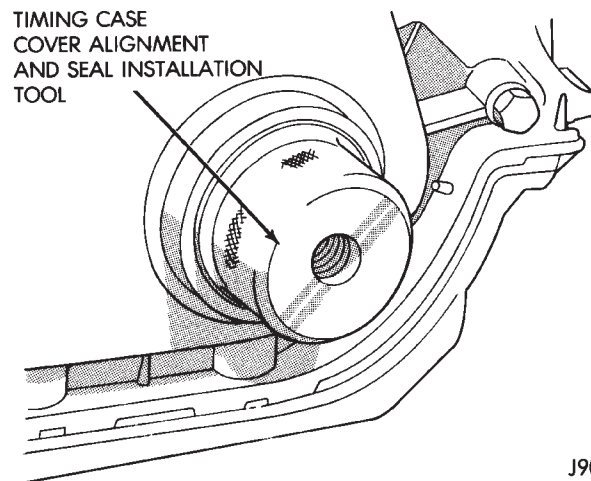

Fig. 18 Timing Case Cover Alignment and Seal Installation Tool 6139
- (6) Install the crankshaft oil slinger.
- (7) Tighten the camshaft sprocket bolt to 108 N·m (80 ft. lbs.) torque.
- (8) Check the valve timing.
- (9) Coat both sides of the replacement timing case cover gasket with gasket sealer. Apply a 3 mm (1/8 inch) bead of Mopar Silicone Rubber Adhesive Sealant, or equivalent to the joint formed at the timing case cover and cylinder block.
- (10) Position the timing case cover on the oil pan gasket and the cylinder block.
- (11) Place Timing Case Cover Alignment and Seal Installation Tool 6139 in the crankshaft opening of the cover (Fig. 18).
- (12) Install the timing case cover-to-cylinder block bolts. Install the oil pan-to-timing case cover bolts.
- (13) Tighten the 1/4 inch cover-to-block bolts to 7 N·m (60 in. lbs.) torque. Tighten the 5/16 inch front cover-to-block bolts to 22 N·m (192 in. lbs.) torque. Tighten the oil pan-to-cover 1/4 inch bolts to 14 N·m